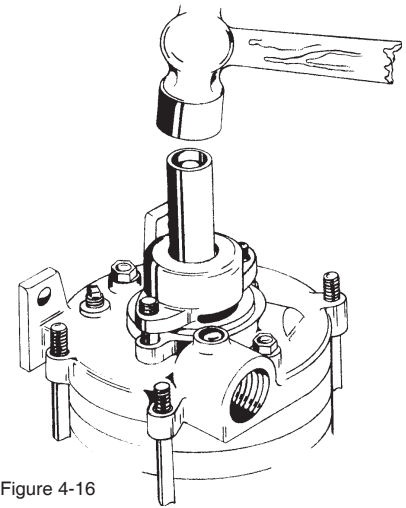

Figure 4-16
30. Place a metal support under the shaft opposite the extension. A 3/8" or 1/2" nut works well. The pump will be unstable in this position. It is well to have necessary tools at an easy reach. Drive the bearing arm assembly onto the shaft until the bearing rests against the shoulder provided. Driving should be done with a sleeve contacting the inner race only.(refer to figure 4-16) Secure with two nuts (#20), finger tight.